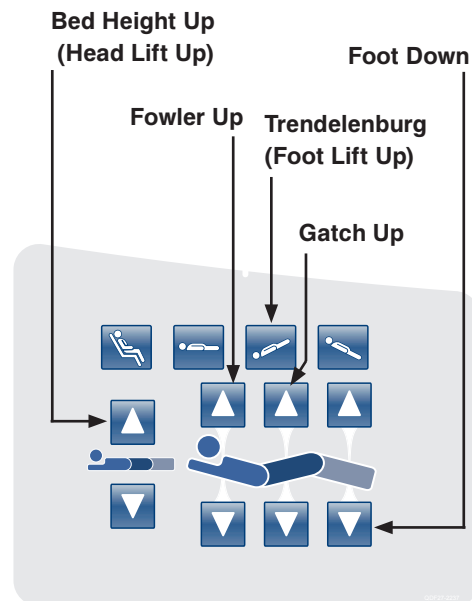

Figure 24: Calibration Complete
28. Place the bed at the highest height by pressing simultaneously the **Trendelenburg (Foot Lift Up)** button and **Bed Height Up (Head Lift Up)** button (see Figure 24).
29. Place the Fowler and Gatch section of the bed at the highest height by first pressing the **Fowler Up** button then the **Gatch Up** button (See Figure 24).
30. Place the foot at the lowest position by pushing the **Foot Down** button until limit is met (see Figure 24) .